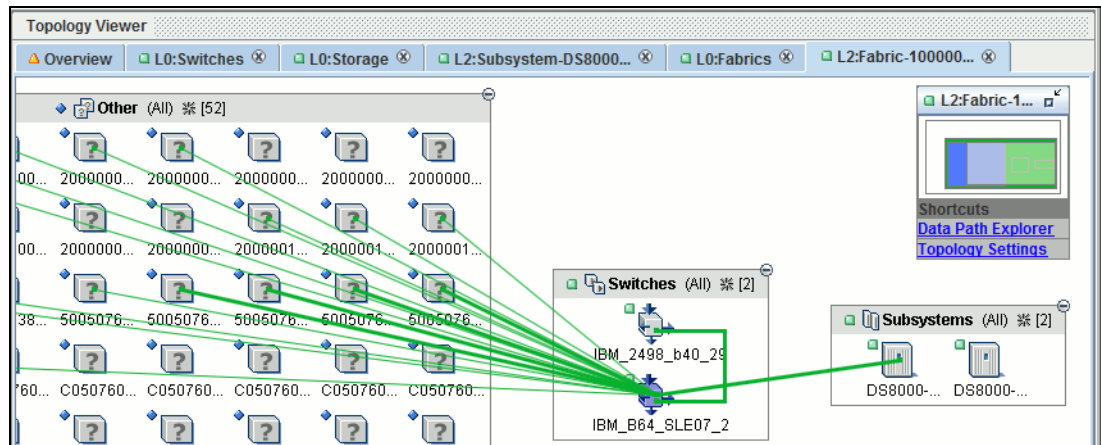
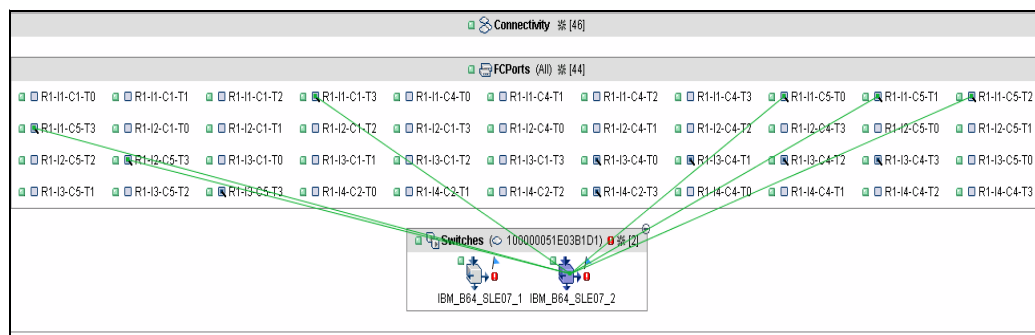

Figure 12-30 Topology view of physical paths between one host and one DS8000 system
Figure 12-31 Topology view: detailed view of the DS8000 host ports assigned to one of its two switches
To display the path information shown in Figure 12-30 and Figure 12-31, execute these steps:
4. Press Ctrl and click any additional devices to which you would like to display the physical path (Figure 12-30).
5. To obtain more details about the connectivity of dedicated systems, as shown in Figure 12-31, double-click the system of interest and expand the details of the system view.
In Figure 12-30, the display of the Topology view points out physical paths between the hosts and their volumes located on the DS8000 system. In this view, there are only WWPNs shown in left box labeled Other. To interpret WWPNs of a host in the fabric, data agents must be placed on that host. Upgrading TPC-BE with additional TPC licenses will enable TPC to assess and also warn you about lack of redundancy.
In Figure 12-31 on page 306, the display of the Topology viewer points out that the switch connectivity does not match one of the recommendations given by the DS8000 Information Center on host attachment path considerations for a storage image. In this example, we have two I/O enclosures in each I/O enclosure pair (I1/I2 or I3/I4) located on separate RIO loop halves (the DS8000 Information Center¹ mentions that “you can place two host attachments, one in each of the two I/O enclosures of any I/O enclosure pair”). In the example, all switch connections are assigned to one DS8000 RIO loop only (R1-I1 and R1-I2).